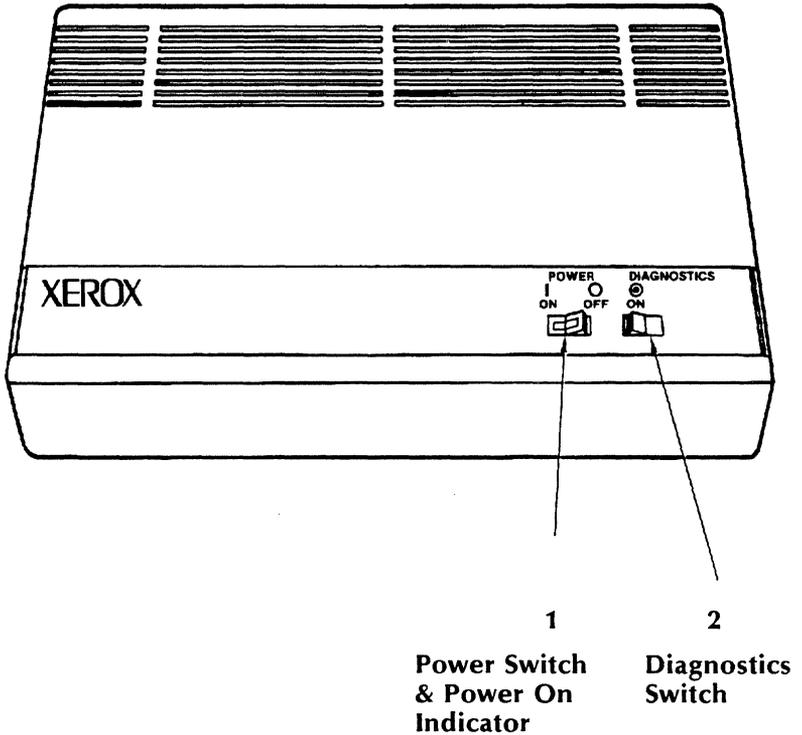

Figure 6-3 Top of the 274 IC
- The 274 IC is turned on by pressing the red power ON/OFF toggle switch, (located on the top of the 274 IC), to the ON position. Fig. 6-3 shows the top of the 274 IC, the diagnostics switch, the power switch, and power on indicator.